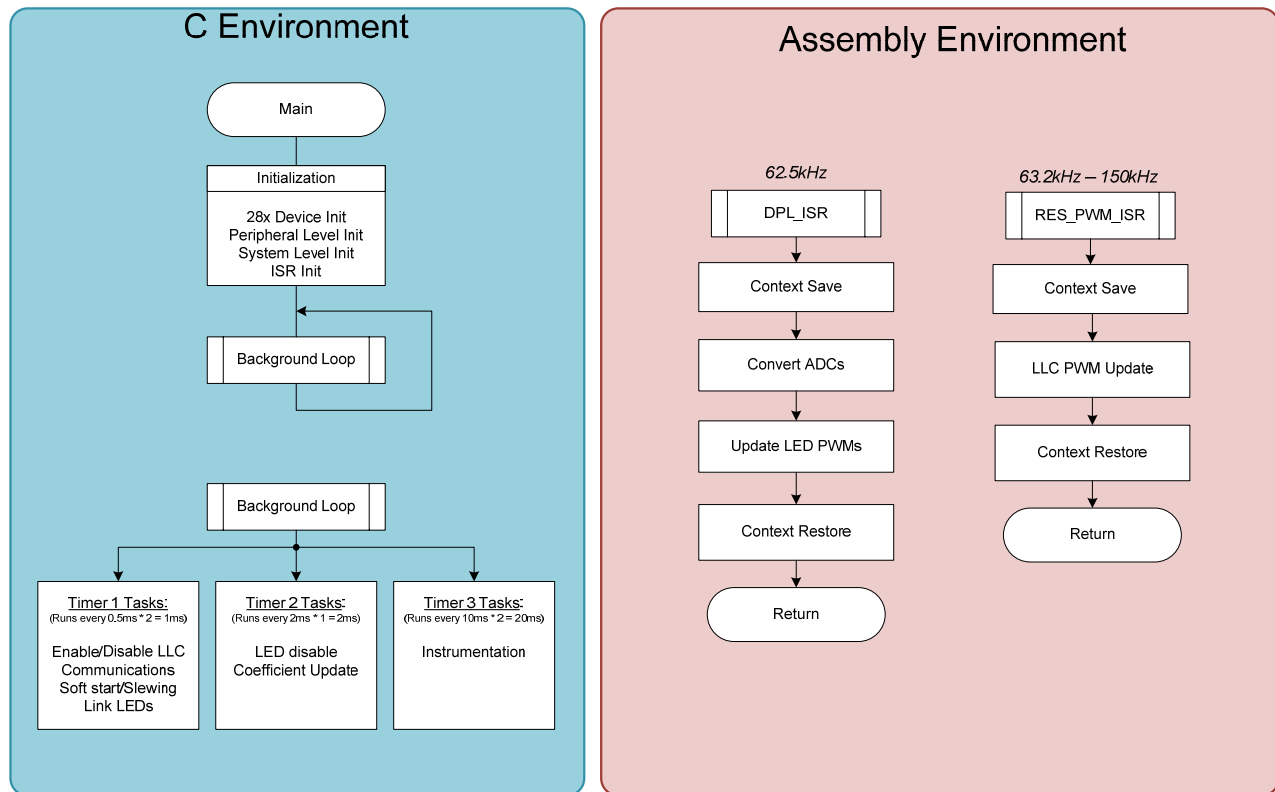

Figure 16: Incremental Build 1 Software Flowchart
1. After initial boot processes are complete the software will begin from the main function. Open up IsoACLighting-Main.c and find the main() function in line 290. After the device begins at main the software flow looks as shown in Figure 16. Most of the software that affects the power stages is done in assembly with the help of C2000's Digital Power Library modules. The DPL_ISR is started by the PWM that drives LED0 and the RES_PWM_ISR is triggered by the varying frequency PWM that controls the LLC resonant power stage.